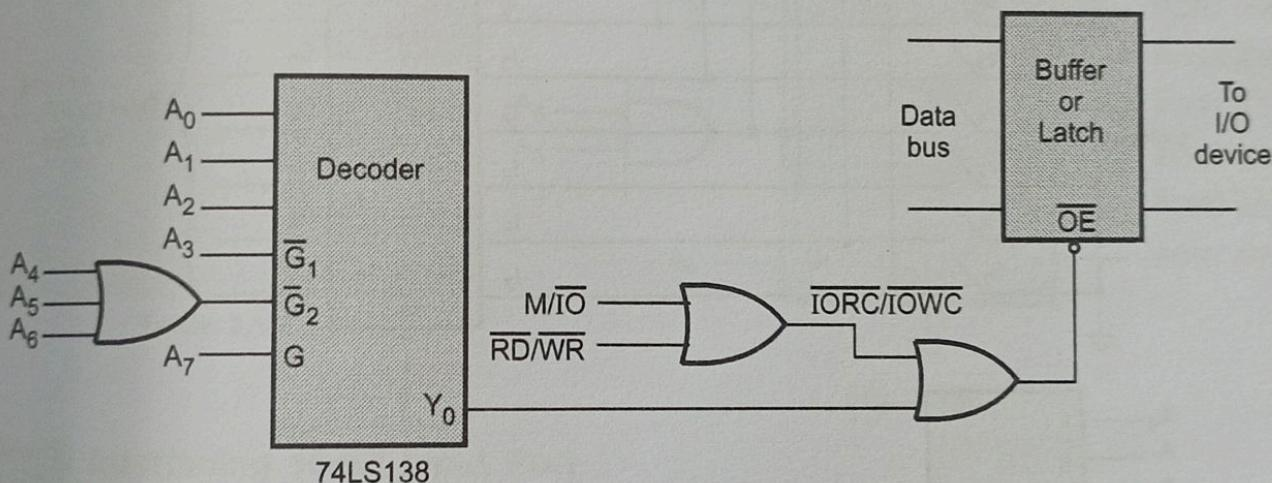

Fig 3.1.1 Absolute decoding circuit for the I/O device
- Fig. 3.1.1 shows the absolute decoding circuit for the I/O device. The IC 74LS138, 3:8 decoder along with OR gate is used to generate device address signal. This signal is ORed with control signal (\overline{IORC} or \overline{IOWC}) to generate device select signal.